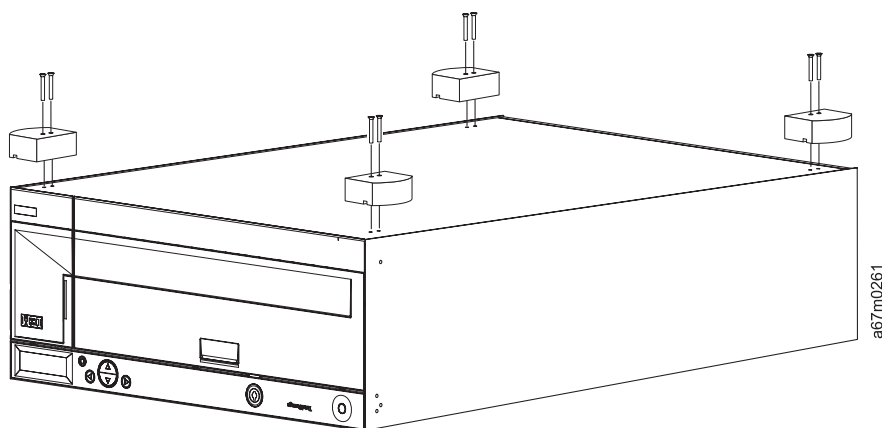

Figure 35. Removing feet from library
- 10. Remove the four feet (see Figure 35). Save the feet and screws for future installation for converting the library to a desktop unit or for shipping.